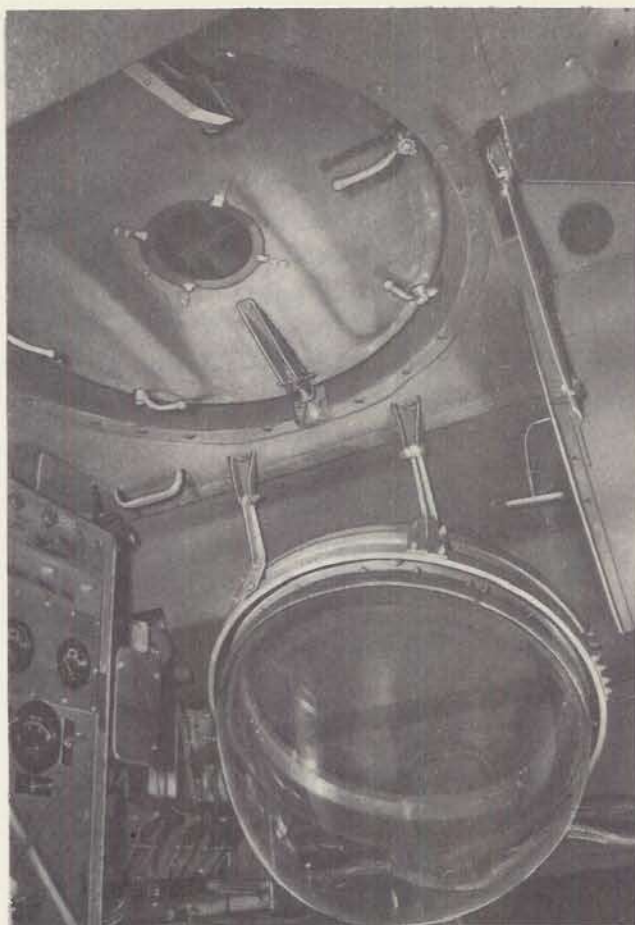

Figure 44—Navigator's Asteral Dome
b. Navigator's hatch—a plexiglass dome (fig. 44).